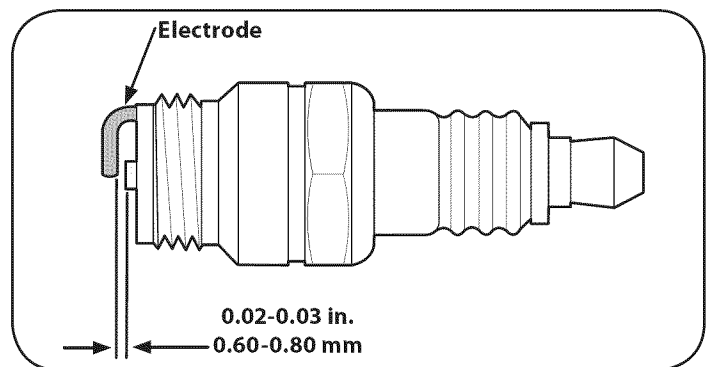

Figure 24
3. Measure the plug gap with a feeler gauge. Correct as necessary by bending side electrode. See Figure 24. The gap should be set to 0.030 in.